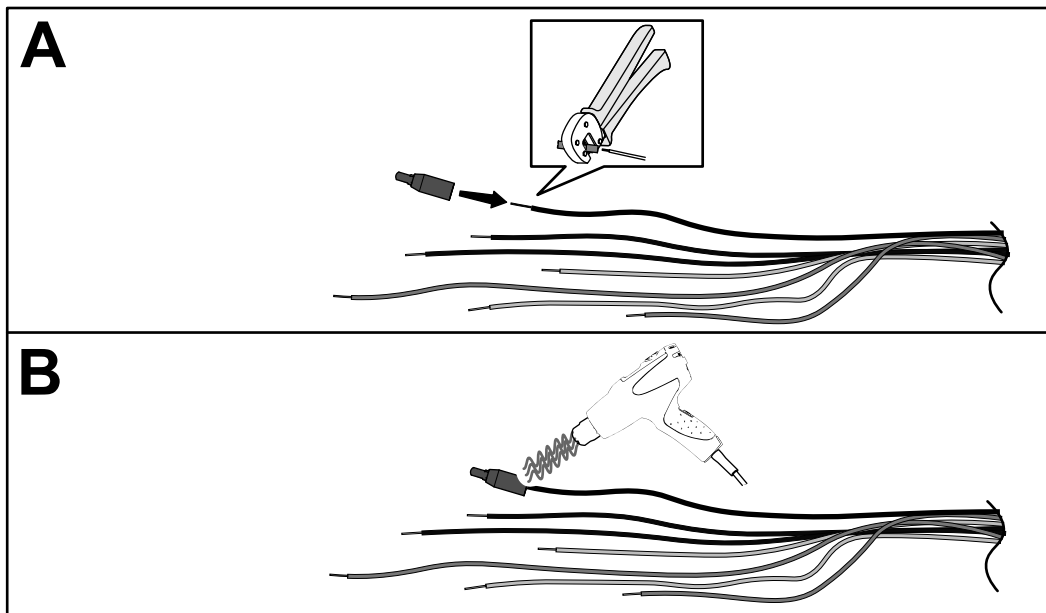

Figure 6
6. On the existing wire harness, install the closed-end splice onto 1 of the gray wires using a crimping tool that matches position (22-14 AWG); refer to A of Figure 6.
7. Use an appropriate heat gun to shrink the splice insulation until the adhesive has squeezed out (B of Figure 6).